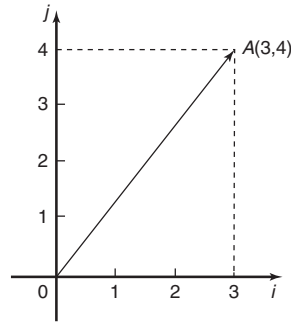

Figure 3.3
- (vi) $xi + yj$, where i and j are axes at right-angles to each other; for example, $3i + 4j$ means 3 units in the i direction and 4 units in the j direction, as shown in Figure 3.3
- (vii) a column matrix $\begin{pmatrix} a \\ b \end{pmatrix}$; for example, the vector OA shown in Figure 3.3 could be represented by $\begin{pmatrix} 3 \\ 4 \end{pmatrix}$
$$\begin{aligned} \text{Thus, in Figure 3.3, } OA &\equiv \overrightarrow{OA} \equiv \overline{OA} \\ &\equiv 3i + 4j \equiv \begin{pmatrix} 3 \\ 4 \end{pmatrix} \end{aligned}$$